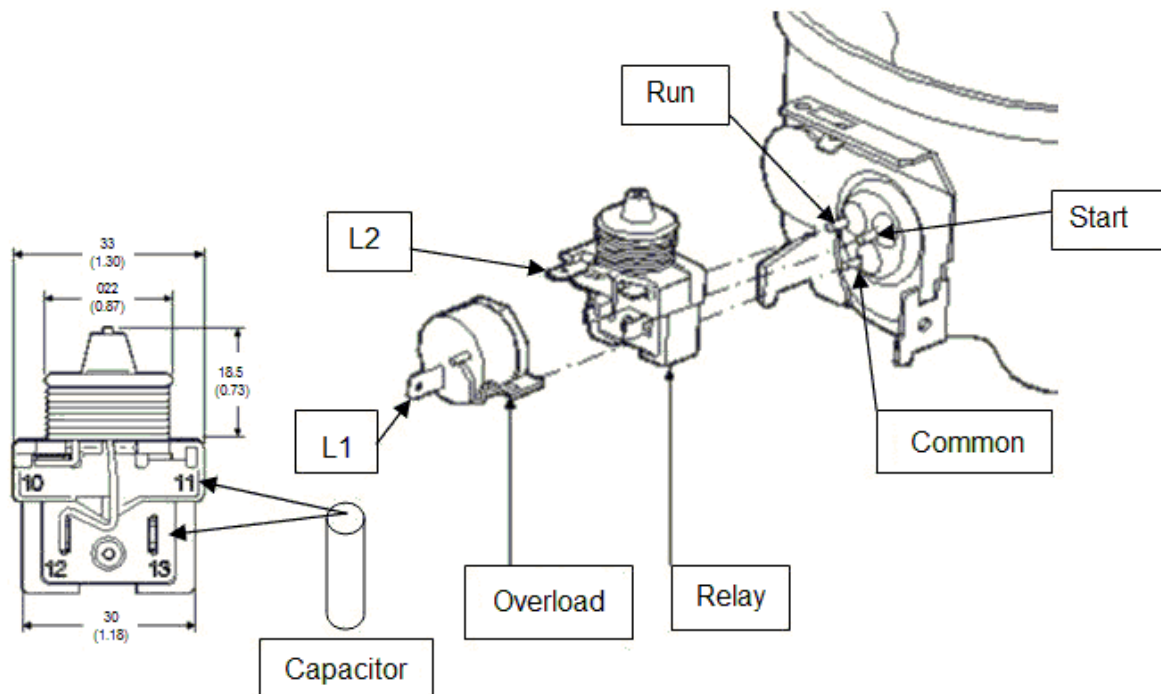

FIGURE 11. COMPRESSOR START COMPONENTS
- c. Check relay. See FIGURE 11 shown below. Remove lead terminals and remove relay from compressor. Keep relay upright.
- e. Check compressor windings. See FIGURE 11 shown below.